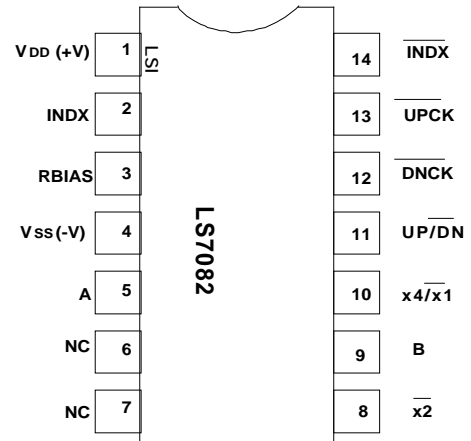

FIGURE 1
- LS7082 (DIP), LS7082-S (SOIC) - See Figure 1